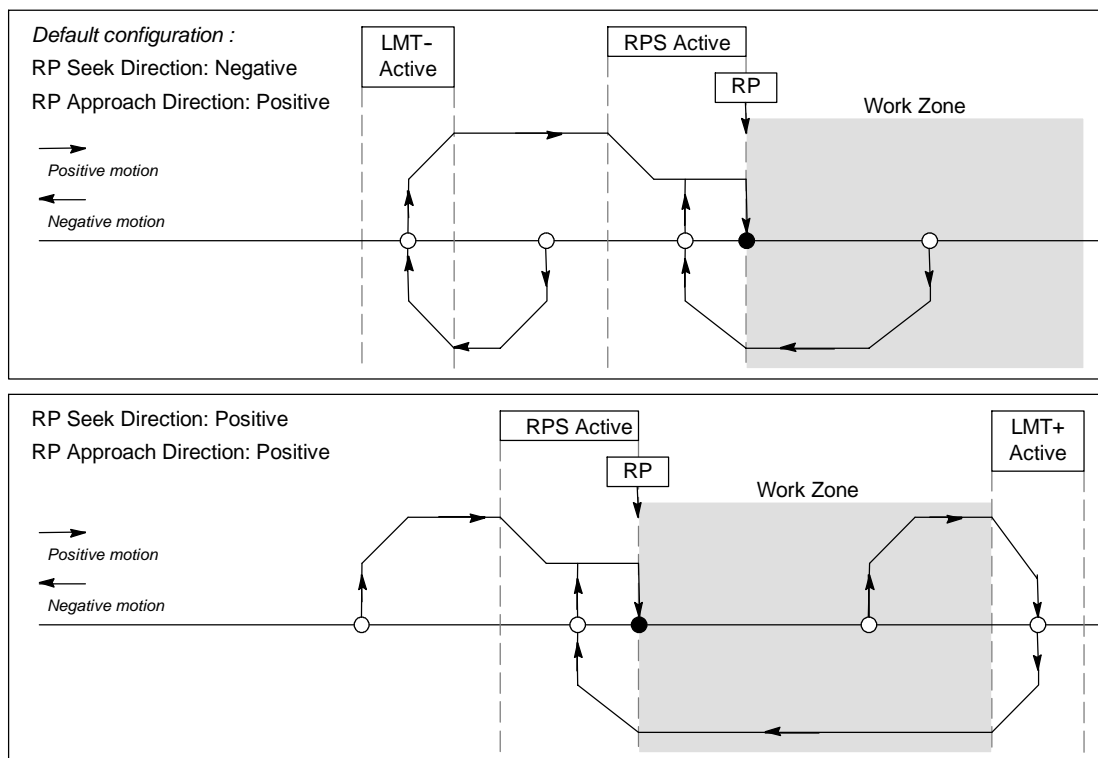

Figure 9-21 RP Seek Mode 1
- ❑ Figure 9-21 shows two of the options for RP seek mode 1. This mode locates the RP where the RPS input goes active on the approach from the work zone side.